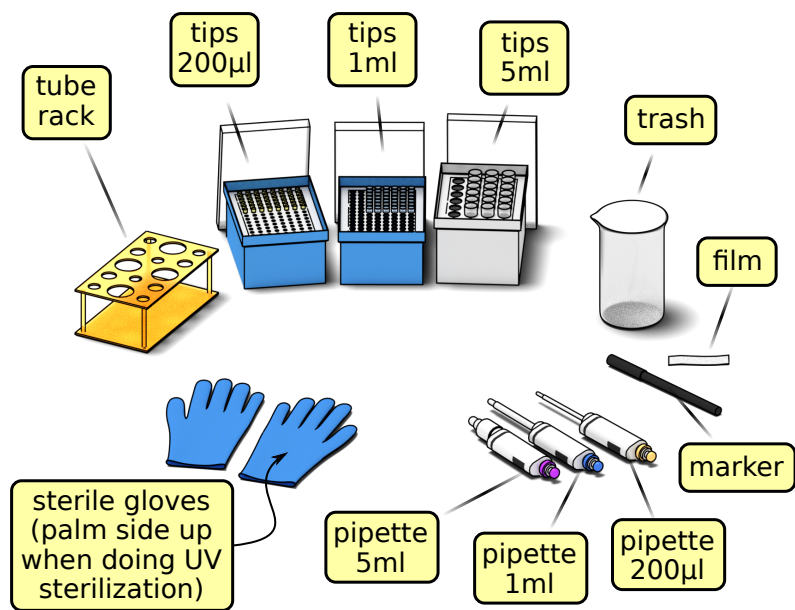

Fig. 2.6. Tools and equipment required for DMEM+ preparation
- 1.3. Check for required equipment, tools, etc (see table 2.2 and fig. 2.6)
- 1.5. Turn on the Biological Safety Cabinet (BSC) and put there tools and equipment (see table 2.2 and fig. 2.6)